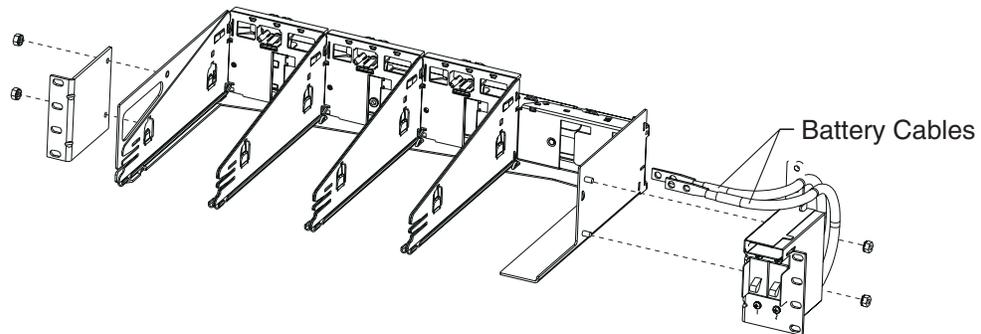

Figure 5-10: Battery Breaker Assembly Installation
2. Mount the smaller bracket to the left side of the shelf using the saved hardware. Then attach the battery breaker bracket assembly adapter bracket to the right side of the shelf using the saved hardware. See Figure 5-10. Ensure battery breakers are in the OFF position.